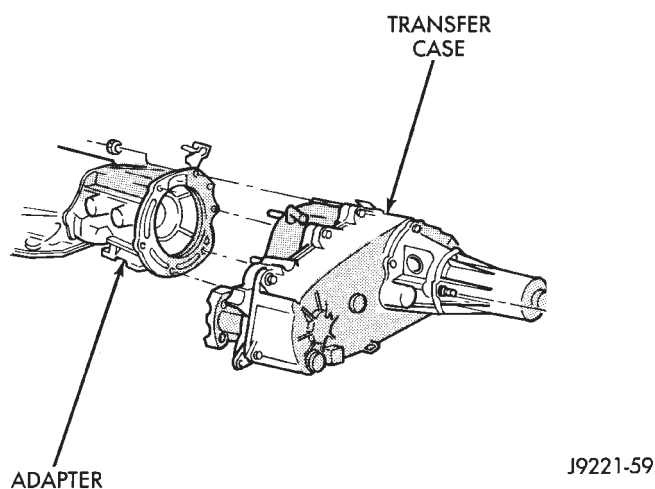

Fig. 7 Transfer Case Attachment
(20) Connect exhaust Y-pipe to engine exhaust manifolds.
(21) Install shift linkage torque bracket.
(22) Connect shift linkage to transmission.
(23) Connect solenoid and park/neutral position switch wires.
(24) Connect wires to transmission speed sensor and vehicle speed sensor.
(25) Install crossmember on frame rails. Place crossmember at 45° angle to rails. Insert crossmember between rails and rotate crossmember into place.
(26) Install bolts/nuts attaching transmission to rear mount.
(27) Install bolts/nuts attaching crossmember to frame rails.
(28) Remove transmission jack.
(29) Install transfer case (Fig. 7). Align and position transfer case with transmission jack or with aid of helper. Tilt case upward and work into position on transmission mounting studs.
(30) Install and tighten transfer case attaching nuts to 47 N•m (35 ft. lbs.) torque.
(31) Install damper on transfer case rear retainer if removed. Tighten damper nuts to 54 N•m (40 ft. lbs.) torque.
(32) Install and connect transfer case shift linkage.
(33) Connect transmission cooler lines to quick disconnect fittings on transmission case. Refer to In-Vehicle service section for procedures.